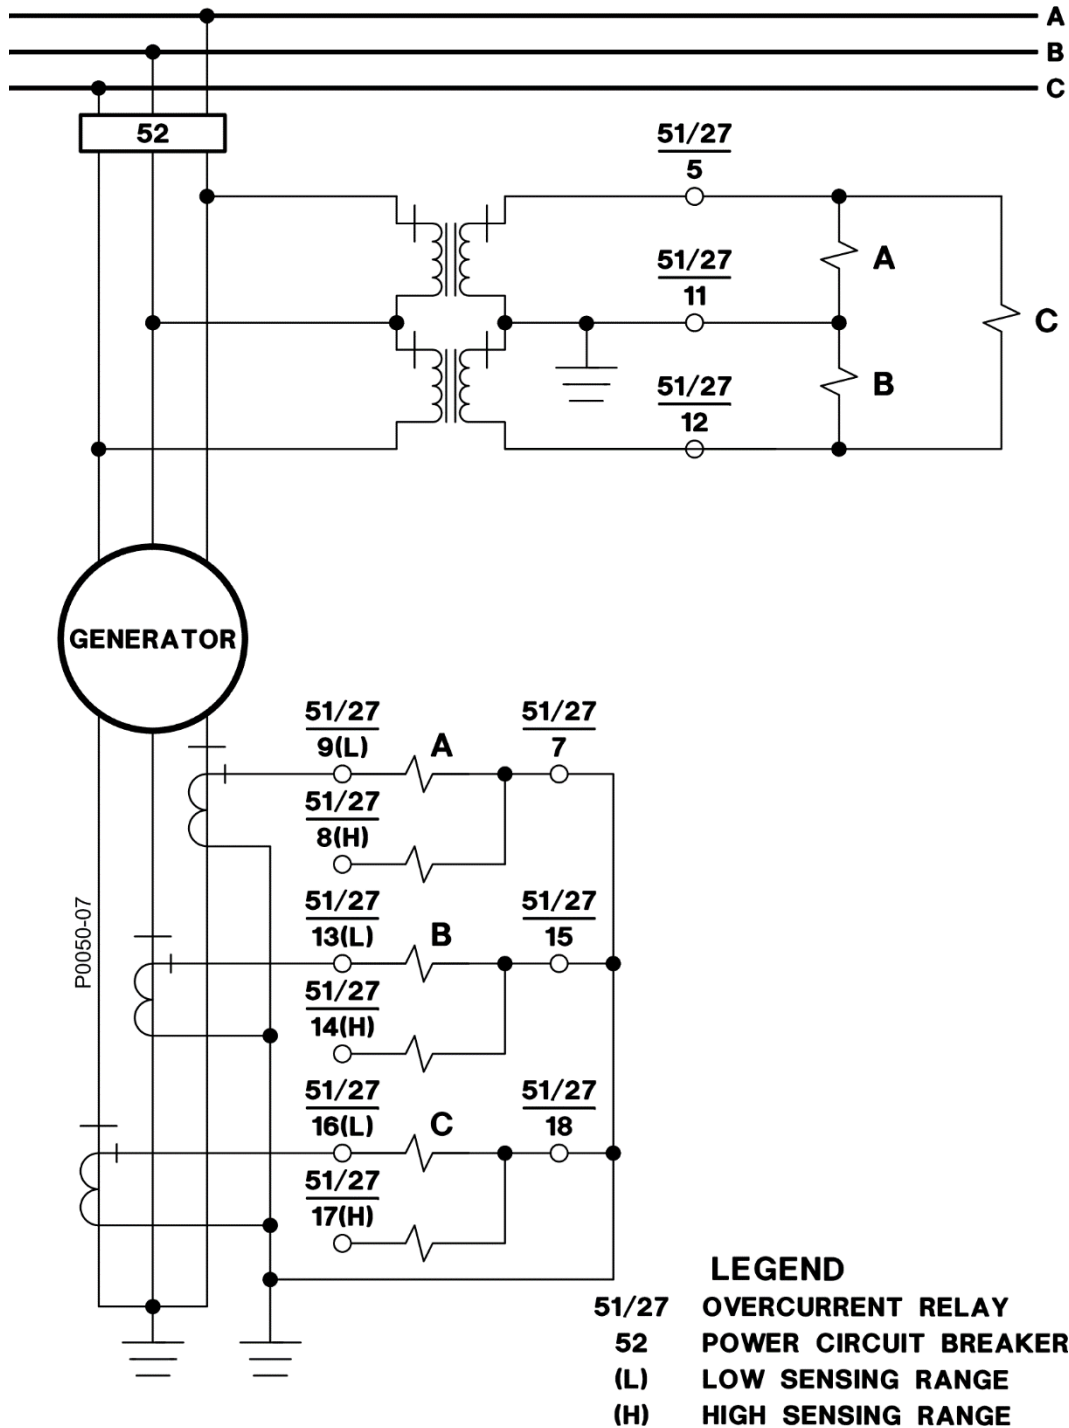

Figure 4-17. Typical External Connections, Sensing Input Type A
- Figure 4-17: Typical External Connections, Sensing Input Type A